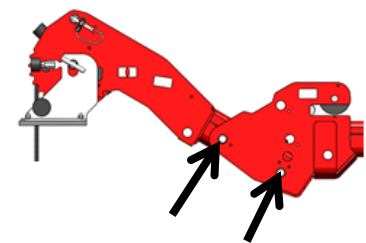

Figure: 45
- Now the winch head or manual jib extension can be attached in the 30° section with the two pins (see figure 45).